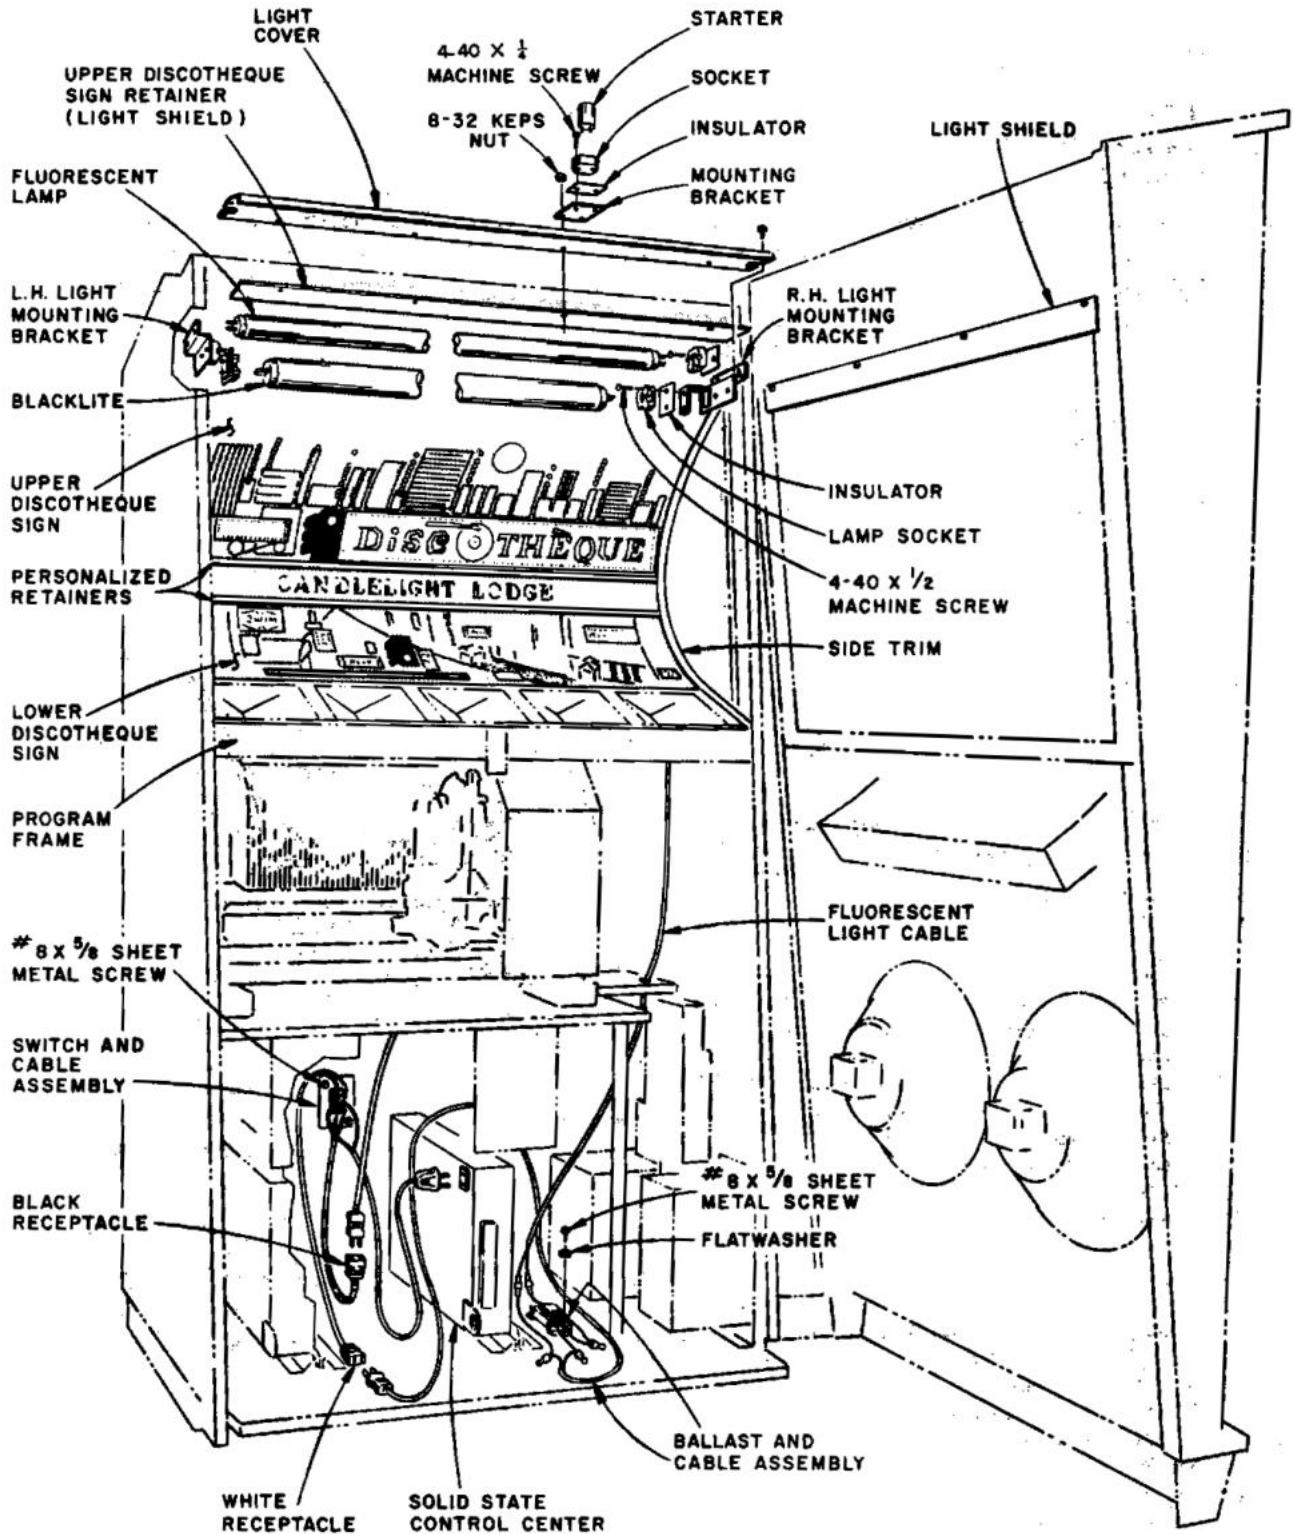

Figure 2. Decoration Panel and Black Light Installation.
5. Remove personalized strip retainers from program frame. Retainers are held in place with eight (8) hex nuts located on back of program frame. Raise frame to remove hex nuts.
13. Mount new right and left hand light mounting brackets in position as shown in *Figure 2*, using screws removed in step 4.
20. Position switch mounting plate so switch is centered in keyhole (cable across hole) on rear of cabinet and so line cord connections are as shown in *Figure 2*. Secure in place using two No. 8 x  $\frac{5}{8}$  inch sheet metal screws. Remove and discard cable hole cover that is on outside of cabinet.